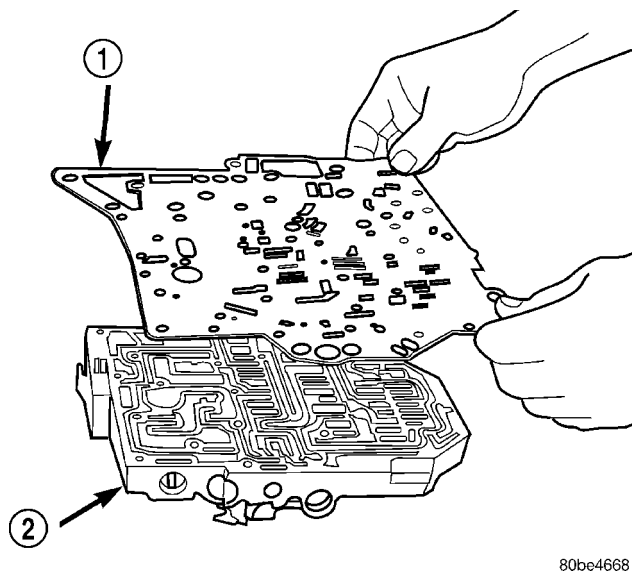

Fig. 326 Remove Separator Plate
(10) Remove separator plate (Fig. 326).